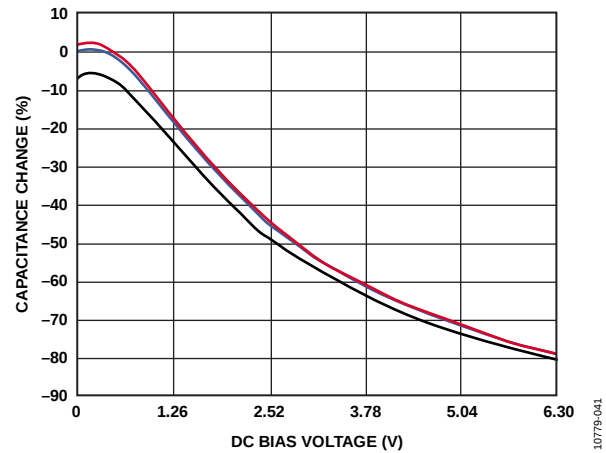

Figure 41. DC Bias Characteristic of a 6.3 V, 10 μ F Ceramic Capacitor
- C_{OUT} at $V_{OUT}(\text{max}) = 5\text{ V}$, is 3 μ F, as shown in Figure 41.